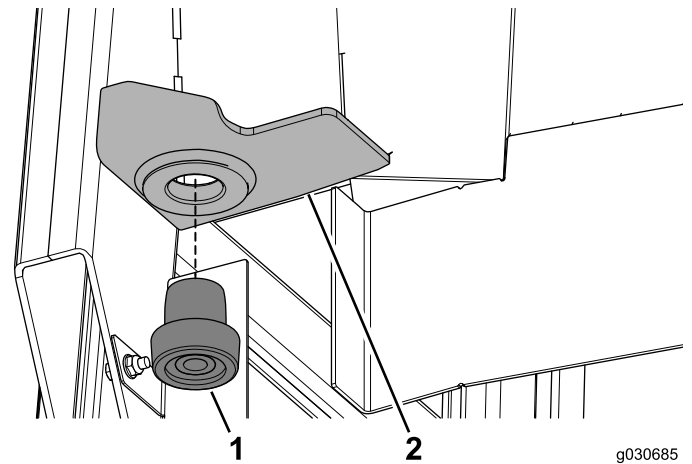

Figure 9
1. Press a rubber isolator into the hole of the left, rear mount on the cab frame (Figure 9).